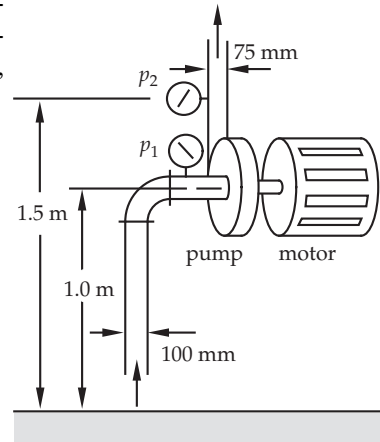

FIGURE P2.42.
42. A pump moving hexane is illustrated in Figure P2.42. The flow rate is  $0.02 \text{ m}^3/\text{s}$ ; inlet and outlet gage pressure readings are  $-4 \text{ kPa}$  and  $190 \text{ kPa}$ , respectively. Determine the required power input to the fluid as it flows through the pump.